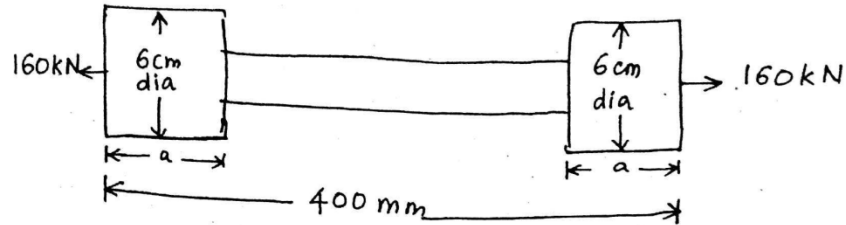

fig.Q.11(a)
11. (a) The bar shown in fig.Q.11(a) is subjected to a tensile load of 160 kN. If the stress in middle portion is limited to 150 N/mm^2 , determine the diameter of the middle portion. Find also the length of the middle portion if the total elongation of the bar is to be 0.2 mm . Young's modulus is $2.1 \times 10^5 \text{ N/mm}^2$.